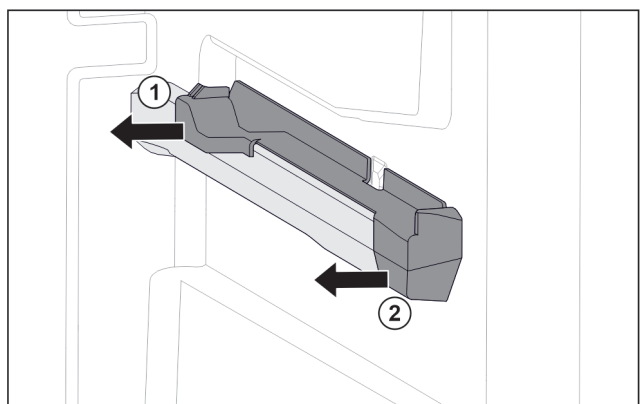

Fig. 24 Attachment on the right moulded rib
- ▶ Pull off attachment at the back sideways. Fig. 24 (1)
- ▶ Pull off attachment at the front sideways. Fig. 24 (2)